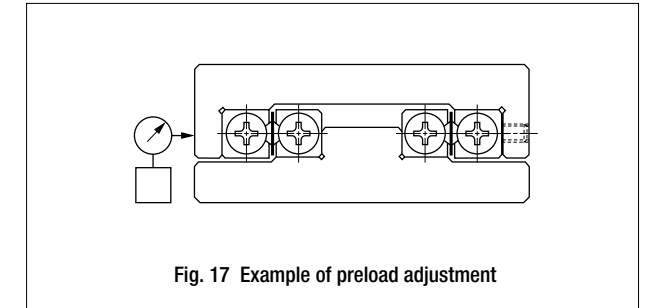

Fig. 17 Example of preload adjustment
**6 Preload adjustment (Fig. 17)**